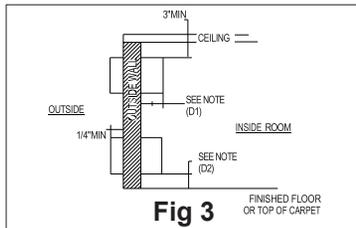

Fig 3
- E) There should be sufficient space margins around the unit to facilitate maintenance and repairs (refer to Figs 3 and 4).